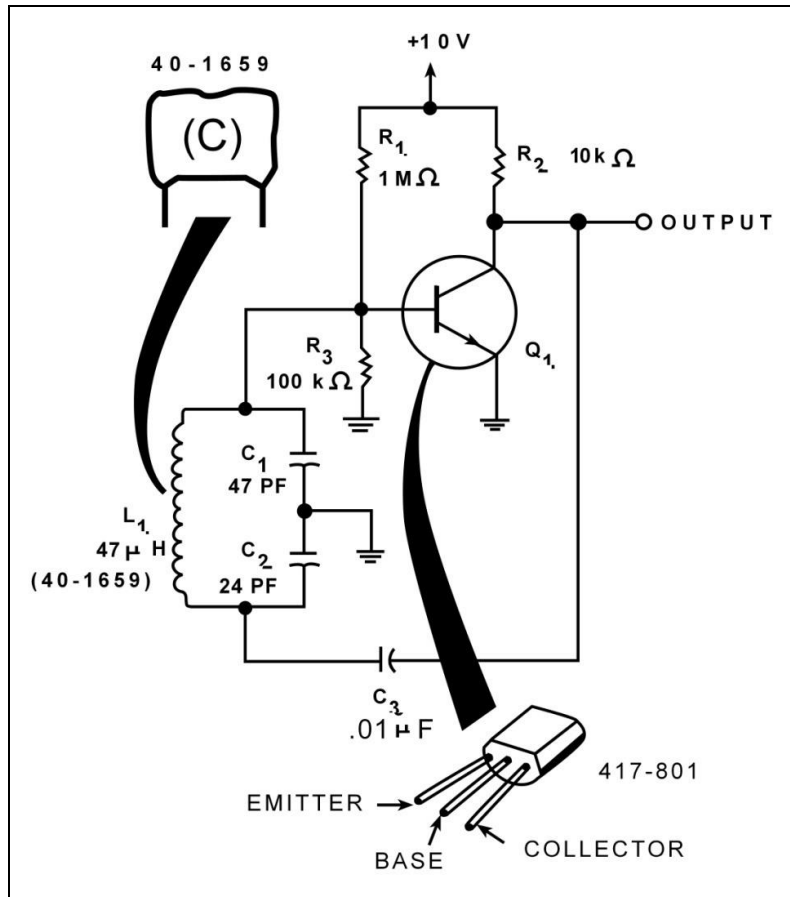

Fig. 2-2 Series Resonant Colpitts Crystal Oscillator
4. Turn off the Trainer and connect the 3.58 kHz crystal in the feedback path as shown in Fig. 2-2. With the crystal connected in this manner, it is operating in the _____ resonant mode.